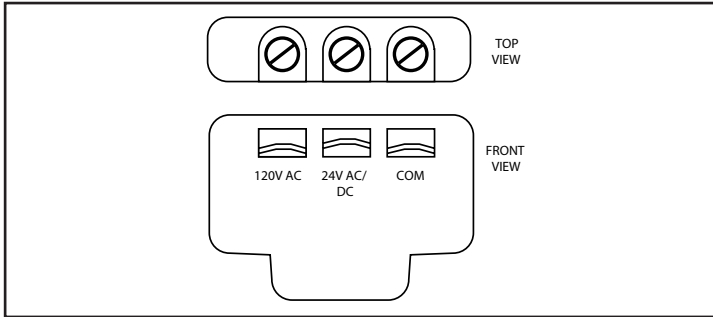

Figure 2. Terminal Block
- Refer to Figure 2 and connect as instructed below: